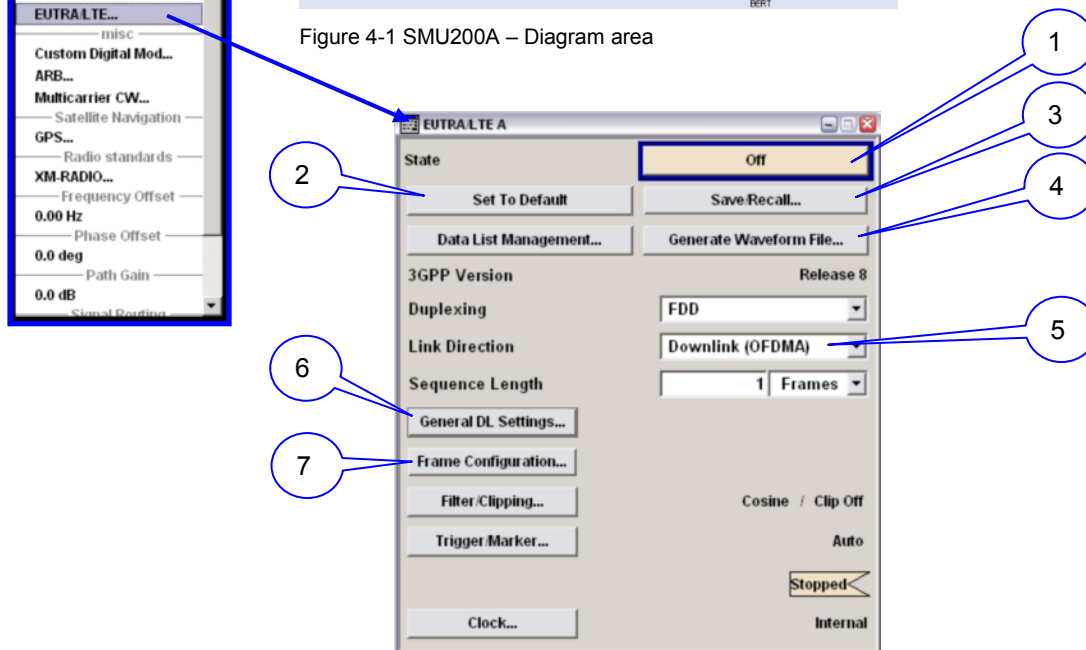
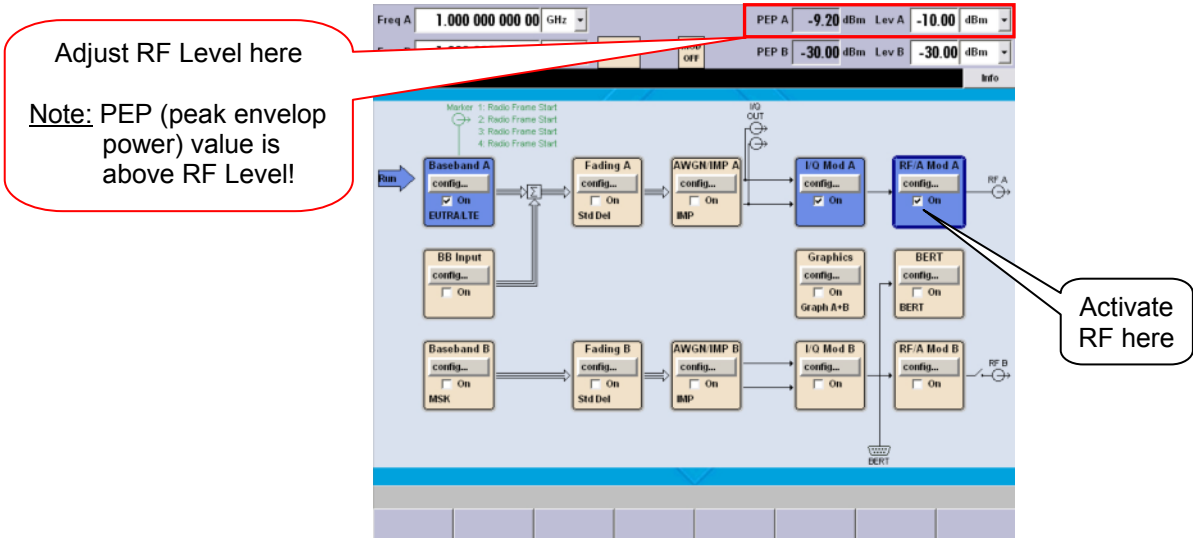

Figure 4-2 SMU EUTRA/LTE BB personality menu (DL)
Figure 4-6 SMU EUTRA/LTE DL settings – BB and RF active
- EUTRA/LTE software menu opens (Figure 4-2)
- d) Select signal link direction: Downlink (Figure 4-2: Flag 5)
- e) Make general DL settings (Figure 4-2: Flag 6)
- f) Configure EUTRA/LTE frame (Figure 4-2: Flag 7)
- g) Enable BB (Figure 4-2: Flag 1) and RF (Figure 4-6)
After setting up the EUTRA/LTE DL signal the BB has to be enabled by toggling the state button (Figure 4-2: Flag 1). Further, in order to generate an output signal, the SMU RF block has to be activated as well (Figure 4-6).